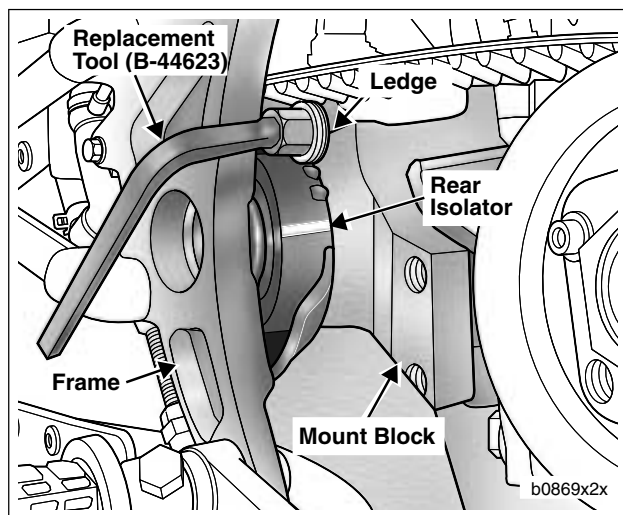

Figure 2-76. Rear Isolator Replacement Tool In Use
11. See Figure 2-76. Working on the right side first, insert the REAR ISOLATOR REPLACEMENT TOOL (Part No. B-44623) between mount block and frame. NOTE: Ledge on tool should engage top of mount block.
3. See Figure 2-76. On right side of motorcycle, insert rear isolator replacement tool between mount block and frame.